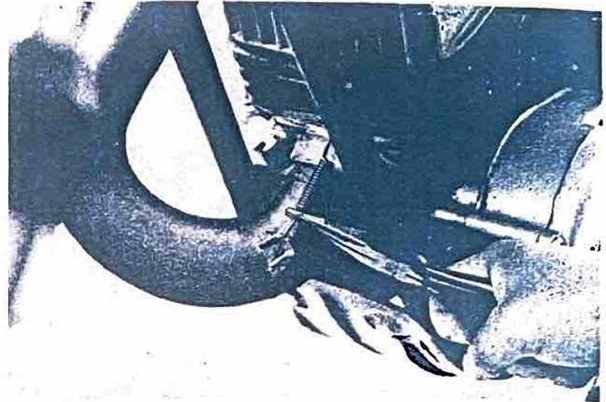

Fig. 4-1-2
- 1) Remove the one springs. (Figs. 4-1-2 and 3)